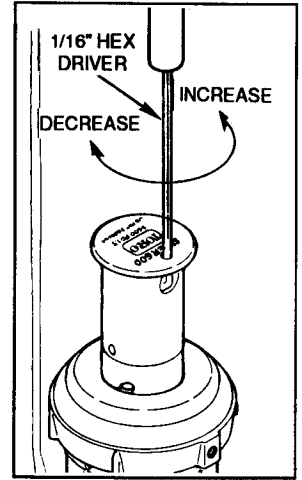

FIGURE 4
1. Rotate stream breaker screw clockwise. (See Figure 4.)
1. Rotate stream breaker screw counterclockwise. (See Figure 4.)